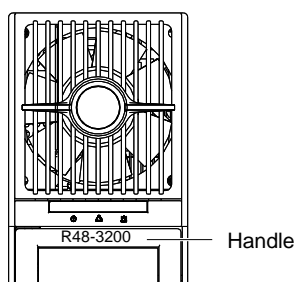

Figure 3-20 Handle and fixing screw positions
1. Press the handle of the rectifier, as shown in Figure 3-20. The handle will pop out automatically, and the positioning pin will retract into the rectifier.